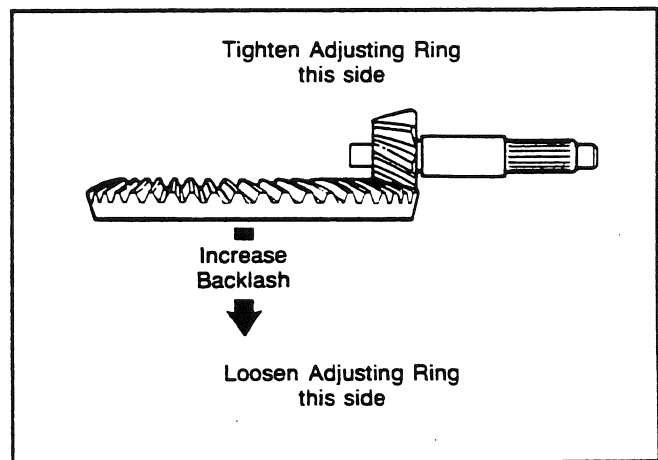

Fig. 74
- a) Increase backlash by moving the ring gear away from the drive pinion (see Fig. 74).
5. Loosen one adjusting ring by one notch. Tighten the opposite ring by the same amount (see Figs. 74 and 75). When adjusting backlash, move the ring gear only. Do not move the drive pinion. Repeat steps 3 to 5 until the backlash is within specifications.